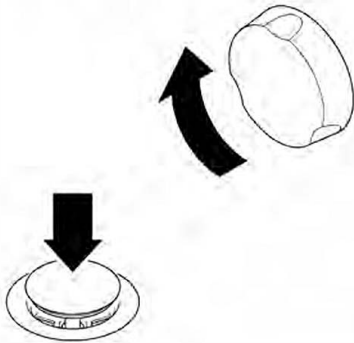

Fig. 2
1. To close the pop up waste rotate the chrome turn handle clockwise until the waste plug locates in the outlet (fig. 2).